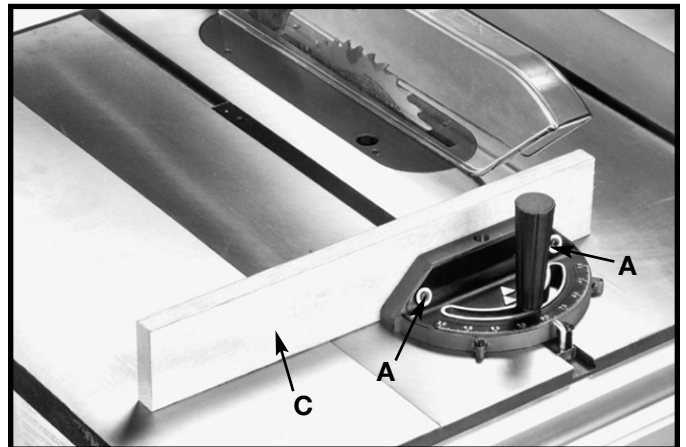

Fig. 51
For added safety and convenience the miter gage can be fitted with an auxiliary wood-facing (C), as shown in Fig. 51, that should be at least 1 inch higher than the maximum depth of cut, and should extend out 12 inches or more to one side or the other depending on which miter gage slot is being used. This auxiliary wood-facing (C) can be **fastened** to the front of the miter gage by using two wood screws (A) through the holes provided in the miter gage body and into the wood-facing.